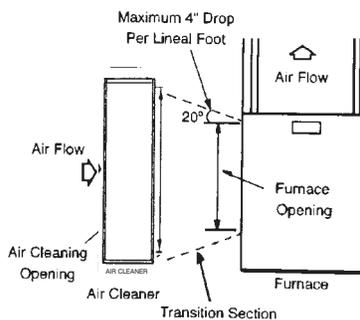

Figure 2 - Transitions
If the air duct does not fit the air cleaner cabinet opening, gradual transitions are recommended to reduce air turbulence through the air cleaner and maximize efficiency. Not more than 20° (about 4" per running foot) of expansion should be used on each side of the transition fitting (Figure 2).
5. Locate the cabinet in the cold air return duct so that all of the return air flows through the unit. If the furnace and air cleaner openings are different, use a transition (see Figure 2).